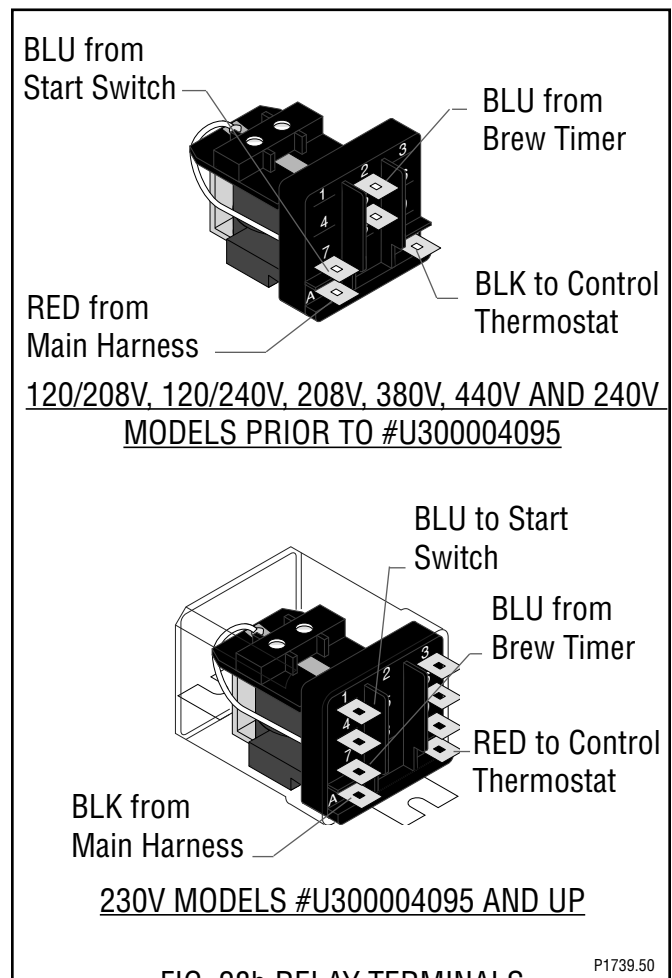

FIG. 28b RELAY TERMINALS
5. Refer to Fig. 28b and reconnect the wires.